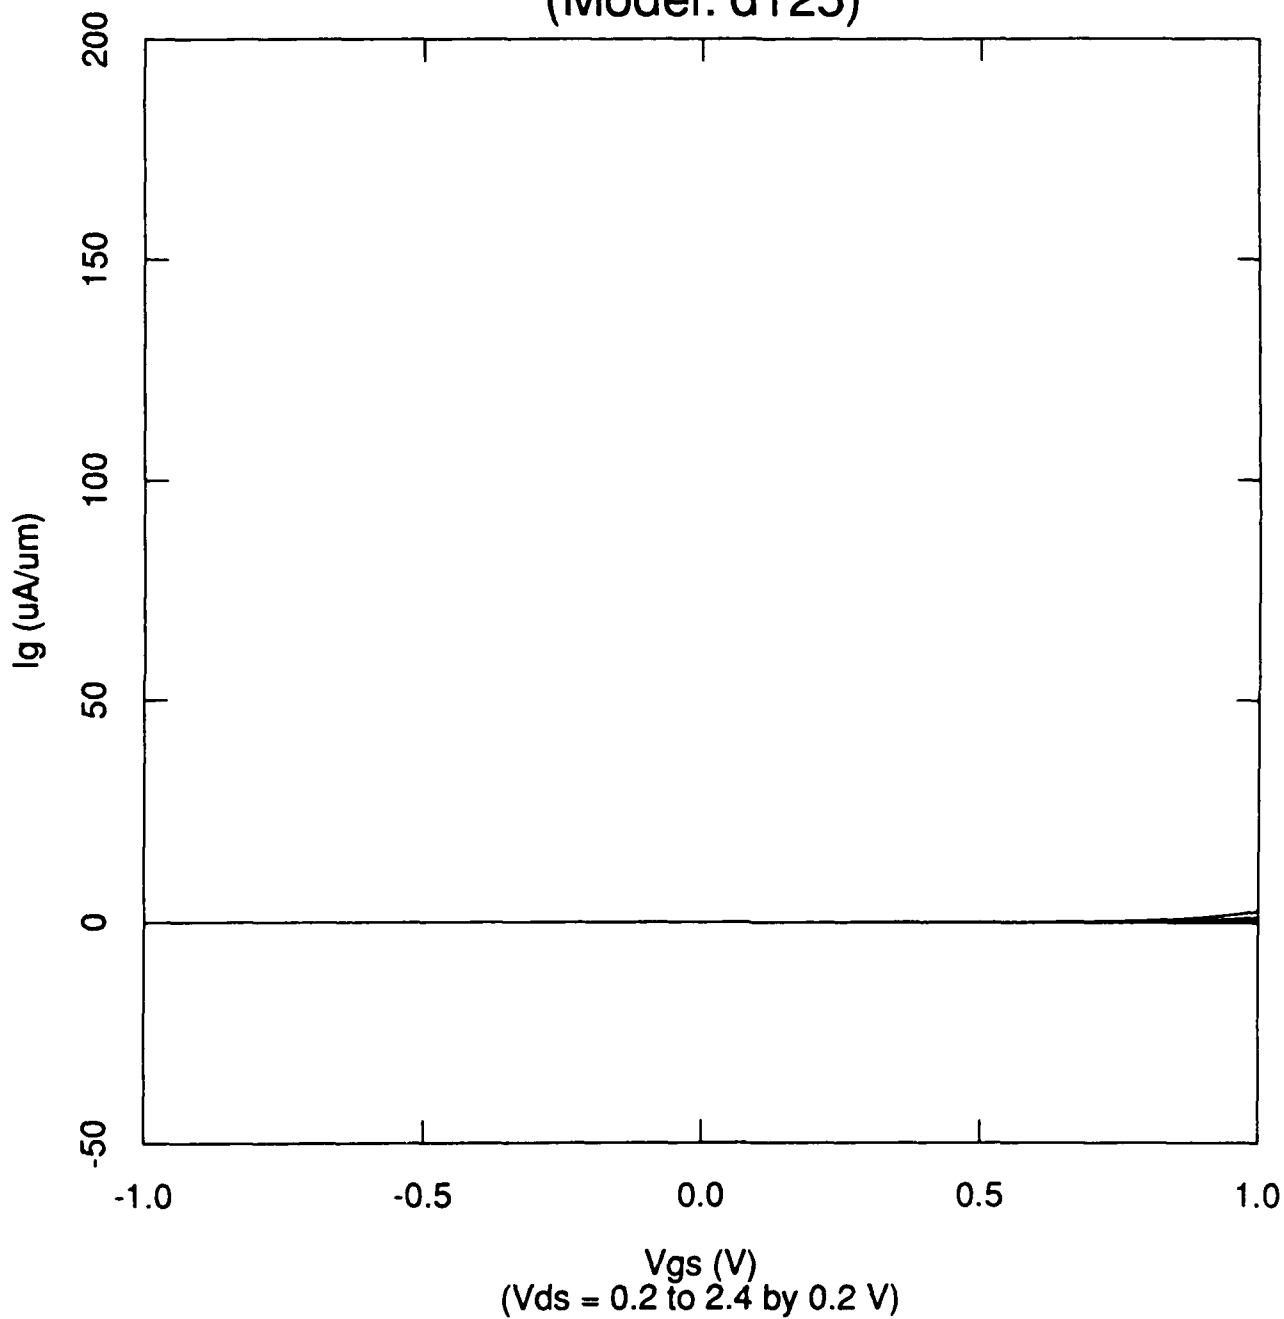

Figure 12. I_g vs. V_{gs} (V_{ds} stepped) for d125 DHFET Simulation at 125C.
- Figure 12. I_g vs. V_{gs} (V_{ds} stepped) for d125 DHFET Simulation at 125C.